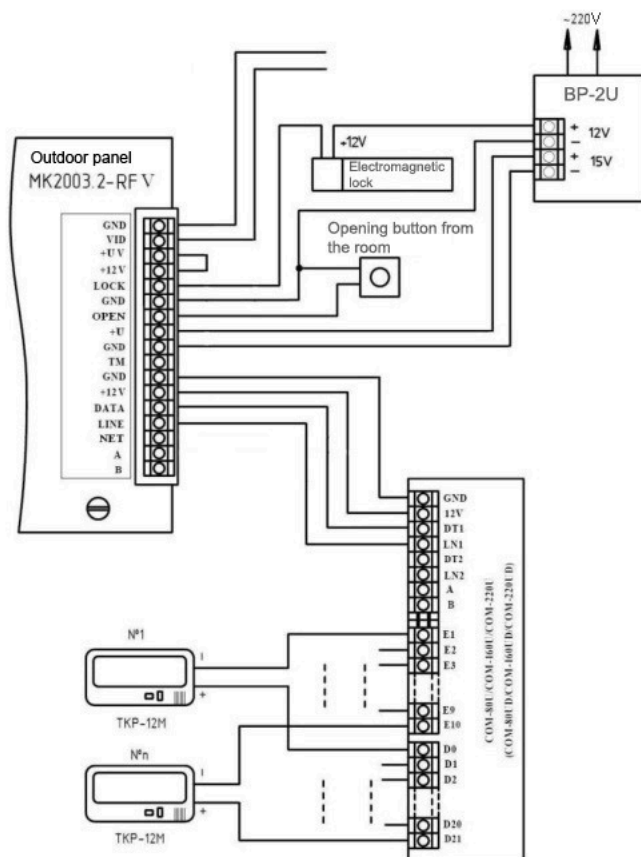

Fig. 2 Example of mounting the outdoor panel MK2003.2-RFV
6. Install the wiring. Make taps from the loops and connect the TCH of all the subscribers. (Figure 2, 3)
- a) Change the code to enter the programming mode and, if necessary, program the master RF (MF) key. Be careful when entering the code. **WRITE MASTER CODE!**
- c) Program subscriber RF (MF) -keys.
- d) If the intercom will be used on the network, it is necessary to enter, the number of the first subscriber, the network number (from 1 to 16), the number of subscribed subscribers (see 7.3). Attention! If the number of the first subscriber is entered is different from "1", then the offset of the subscriber numbers must be taken into account when setting the following parameters. As the Master intercom, outdoor panel MK2003.2-RFE (V) N can be used.